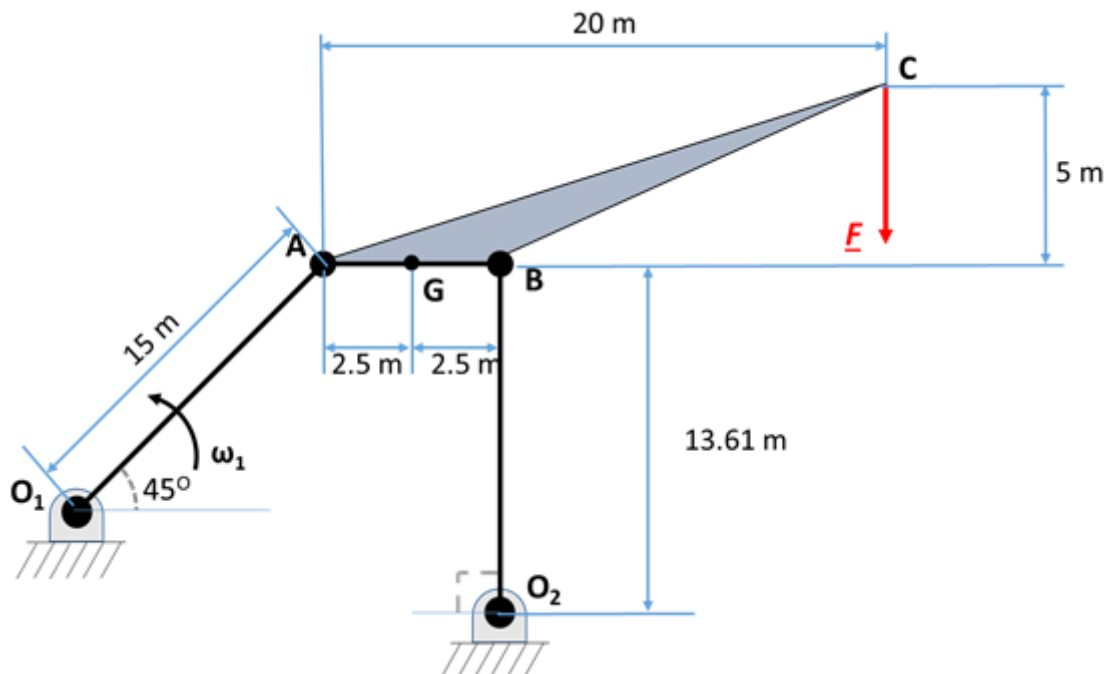

FIGURE Q2
2. FIGURE Q2 shows a four-link mechanism (a crane mechanism) with a load $F=10^4$ N applied to point C in the vertical direction. Points O_1 and O_2 are fixed. The lengths of the links are: $O_1A = 15$ m, $AB = 5$ m, $O_2B=13.61$ m. Link O_1A rotates with constant angular velocity $\omega_1=2$ rad/s. Link ABC has mass concentrated along edge AB. The centre of mass of link ABC is located at point G and $AG=2.5$ m. The mass of link ABC is 1000 kg, and its moment of inertia is 5000 kg.m².